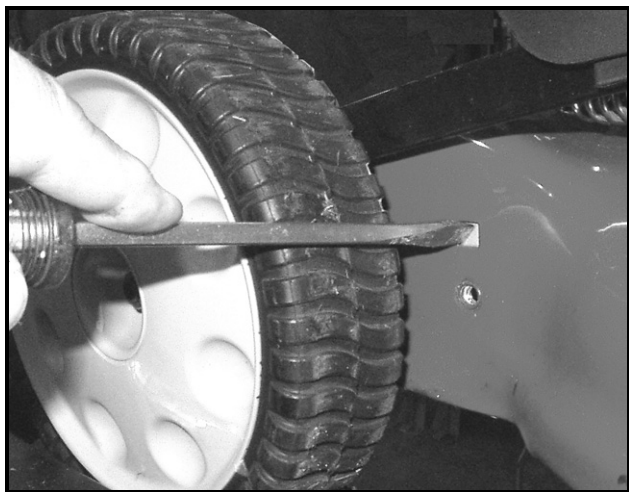

FIGURE 3
9. Using a large flat blade screw driver, push in on the locking tabs on each side while pulling down on the baffle. This will move the tabs out and away of the square holes in the deck. Discard the baffle. See Figure 3.